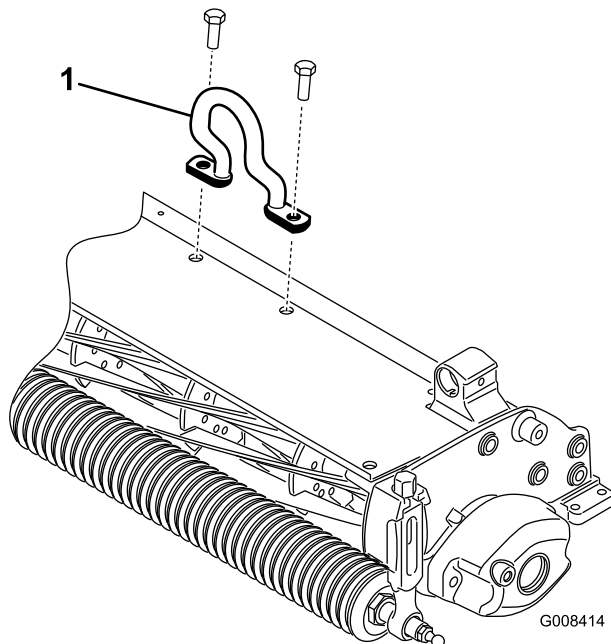

Figure 12
2. Install the offset lift hook (Figure 12) to the top of the cutting unit with (2) M10–1.5 bolts. Torque the bolts to 25–30 ft-lbs. (34–40 N·m). The offset lift hook should be positioned with hook forward.